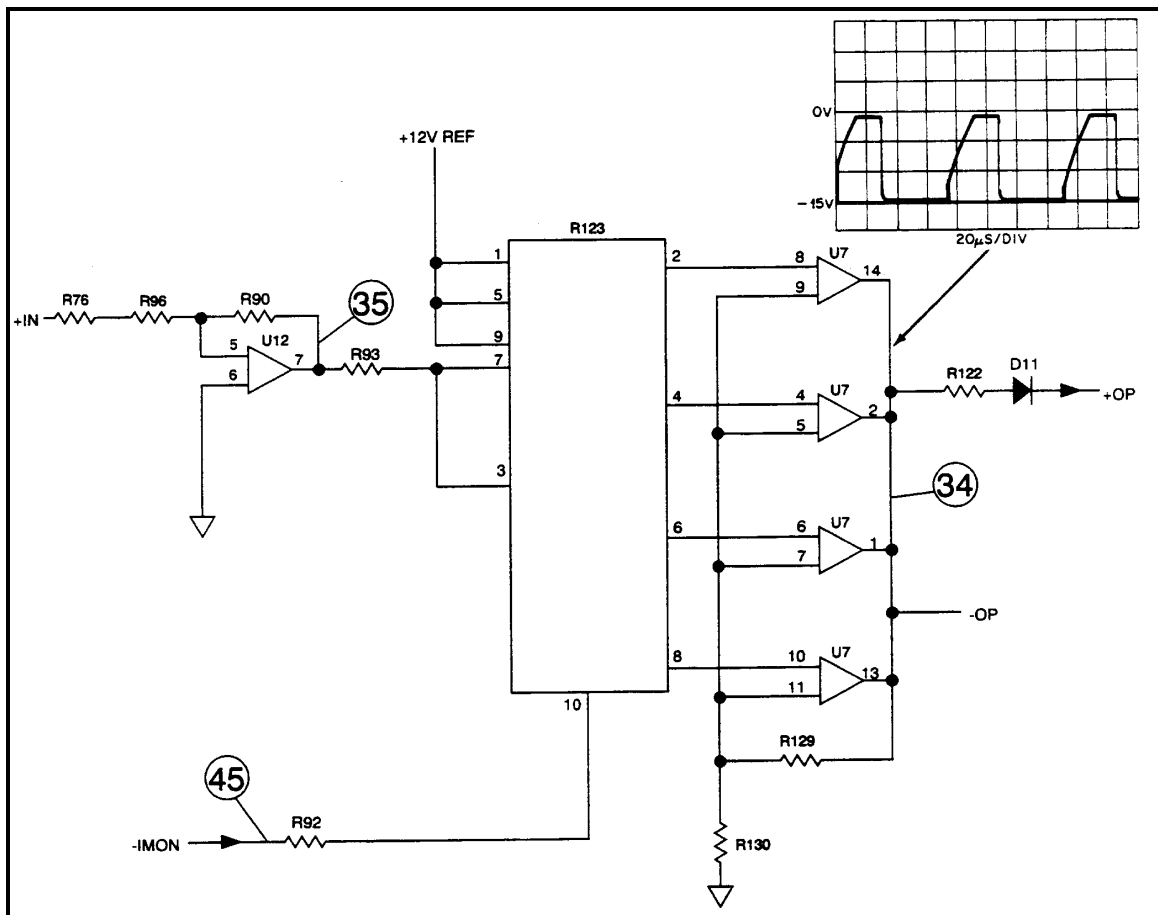

Figure 3-10. Overpower Circuit Troubleshooting
## Overpower Circuit Troubleshooting (Figure 3-10)
When the overpower circuit is active, limiting input power capability, the comparator circuit becomes a relaxation oscillator and its output voltage at test point (34) will go between -14V and 0V (see waveform on Figure 3-10).